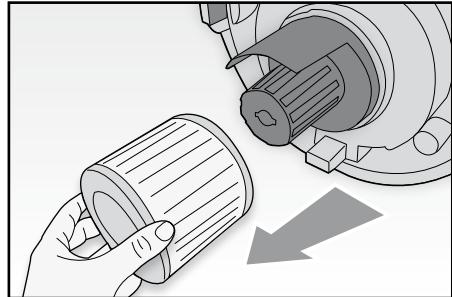

Fig. 9
- Take out the filter (FIG. 9) and rinse it under running water. Make sure that the filter is completely dry before refitting it.